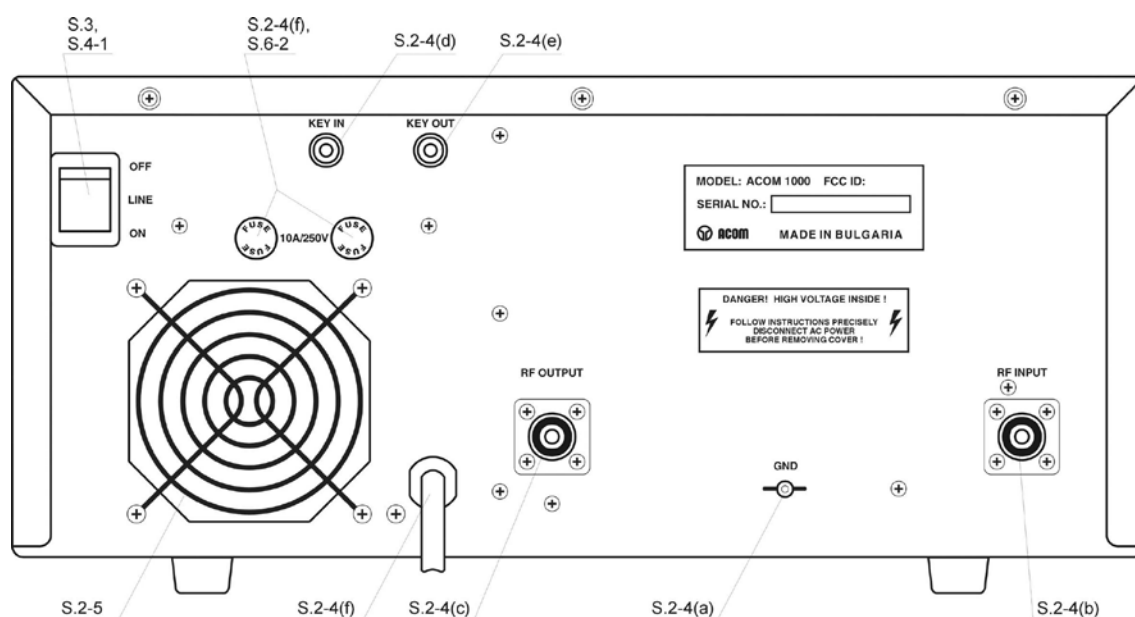

Fig.2-1 Connections
- a) First, connect the ground stud of the amplifier (on the rear panel, marked GND) to the station's grounding system (Fig.2-1).
This fan (Fig. 2-1) is not necessary in SSB and CW modes, nor in continuous carrier modes (RTTY, SSTV etc.) with carrier down times of maximum 15 minutes and a subsequent pause of 3 minutes. For higher duties or increased ambient temperatures the fan is recommended. The auxiliary fan (92x92mm) must be brushless type, 2...5W/24VDC. It may be installed by your dealer or by the manufacturer on request.
After following all instructions in S.2, you can turn ON the main power switch marked "LINE" on the rear panel (Fig.2-1). The LED indicator above the red ON/OFF button located on the front panel must light red and a black inscription "ACOM1000" will appear on the LCD (Fig.3-1):